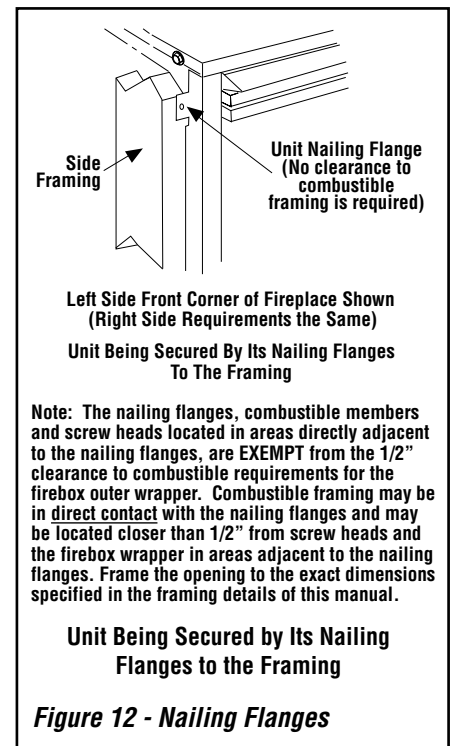

Figure 12 - Nailing Flanges
Step 1. (Page 9) Construct the appliance framing. Position the appliance within the framing and secure with nailing brackets. Bend up the appropriate header spacing guides for the drywall/finish material thickness to be used (refer to **Figure 58, page 30**). Bend up the outer pair for 1/2" materials and the inner pair for 5/8" materials. Bend out the appropriate nailing flanges for the drywall/finish material to be used. Nailing flanges are provided for flush framing, 1/2 inch and 5/8 inch framing depths (see **Figure 12**).
The fireplace should be secured to the side framing members using the unit's nailing flanges - one top and bottom on each side of the fireplace front. See **Figure 12**. Use 8d nails or their equivalent.